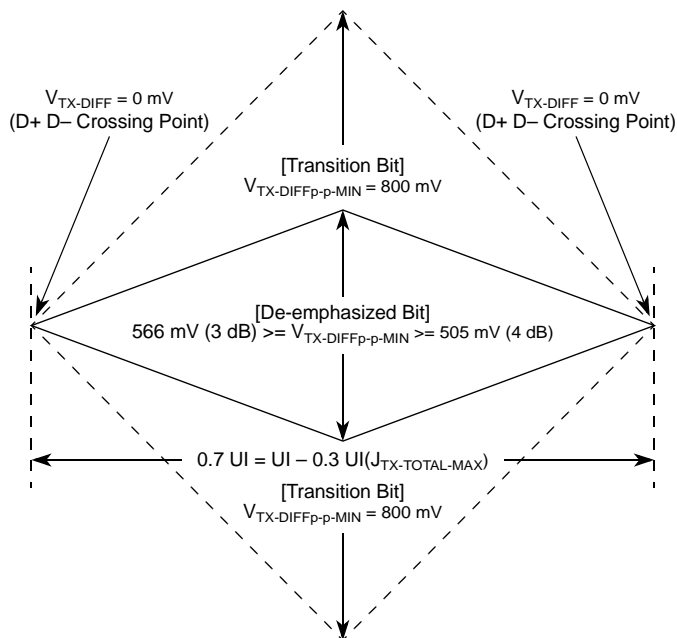
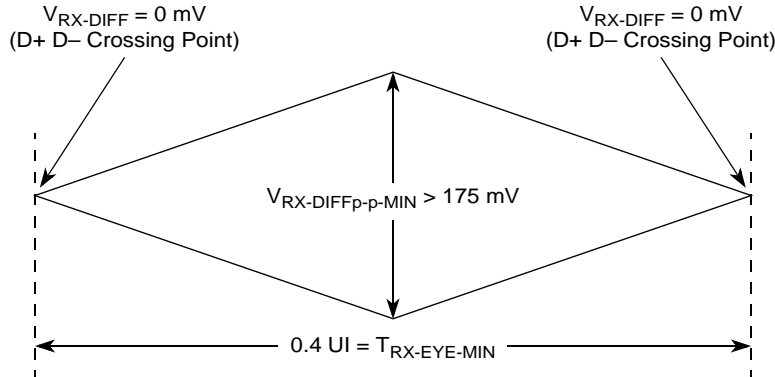
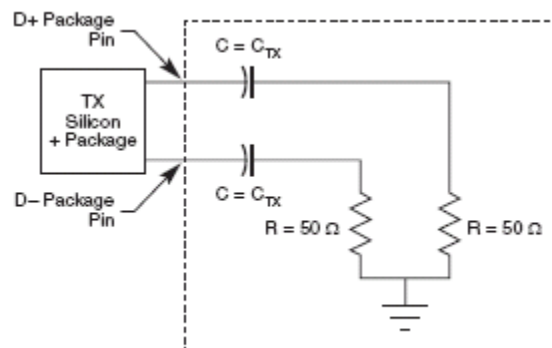

Figure 27. Minimum Transmitter Timing and Voltage Output Compliance Specifications
Figure 28. Minimum Receiver Eye Timing and Voltage Compliance Specification
Figure 29. Compliance Test/Measurement Load
2. Specified at the measurement point into a timing and voltage compliance test load as shown in Figure 29 and measured over any 250 consecutive TX UIs. (Also refer to the transmitter compliance eye diagram shown in Figure 27.)
4. The transmitter input impedance shall result in a differential return loss greater than or equal to 12 dB and a common mode return loss greater than or equal to 6 dB over a frequency range of 50 MHz to 1.25 GHz. This input impedance requirement applies to all valid input levels. The reference impedance for return loss measurements is 50 Ω to ground for both the D+ and D– line (that is, as measured by a vector network analyzer with 50- Ω probes, see Figure 29). Note that the series capacitors, C_{TX} , is optional for the return loss measurement.
5. Measured between 20%–80% at transmitter package pins into a test load as shown in Figure 29 for both V_{TX-D+} and V_{TX-D-} .
The TX eye diagram in Figure 27 is specified using the passive compliance/test measurement load (Figure 29) in place of any real PCI Express interconnect + RX component. There are two eye diagrams that must be met for the transmitter. Both diagrams must be aligned in time using the jitter median to locate the center of the eye diagram. The different eye diagrams differ in voltage depending on whether it is a transition bit or a de-emphasized bit. The exact reduced voltage level of the de-emphasized bit is always relative to the transition bit.
2. Specified at the measurement point and measured over any 250 consecutive UIs. The test load in Figure 29 should be used as the RX device when taking measurements (also refer to the receiver compliance eye diagram shown in Figure 28). If the clocks to the RX and TX are not derived from the same reference clock, the TX UI recovered from 3500 consecutive UI must be used as a reference for the eye diagram.
4. The receiver input impedance shall result in a differential return loss greater than or equal to 15 dB with the D+ line biased to 300 mV and the D- line biased to -300 mV and a common mode return loss greater than or equal to 6 dB (no bias required) over a frequency range of 50 MHz to 1.25 GHz. This input impedance requirement applies to all valid input levels. The reference impedance for return loss measurements for is 50 Ω to ground for both the D+ and D- line (that is, as measured by a vector network analyzer with 50- Ω probes, see Figure 29). Note that the series capacitors, C_{TX} , is optional for the return loss measurement.
The RX eye diagram in Figure 28 is specified using the passive compliance/test measurement load (Figure 29) in place of any real PCI Express RX component. In general, the minimum receiver eye diagram measured with the compliance/test measurement load (Figure 29) is larger than the minimum receiver eye diagram measured over a range of systems at the input receiver of any real PCI Express component. The degraded eye diagram at the input Receiver is due to traces internal to the package as well as silicon parasitic characteristics which cause the real PCI Express component to vary in impedance from the compliance/test measurement load. The input receiver eye diagram is implementation specific and is not specified. RX component designer should provide additional margin to adequately compensate for the degraded minimum Receiver eye diagram (shown in Figure 28) expected at the input receiver based on an adequate combination of system simulations and the return loss measured looking into the RX package and silicon. The RX eye diagram must be aligned in time using the jitter median to locate the center of the eye diagram.
The reference impedance for return loss measurements is 50 Ω to ground for both the D+ and D- line (that is, as measured by a Vector Network Analyzer with 50 Ω probes—see Figure 29). Note that the series capacitors, C_{PEACCTX}, are optional for the return loss measurement.
The AC timing and voltage parameters must be verified at the measurement point, as specified within 0.2 inches of the package pins, into a test/measurement load shown in Figure 29.